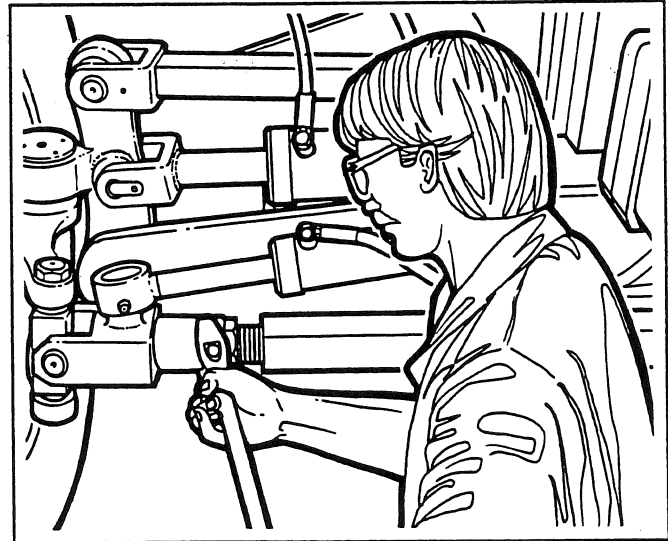

Fig. 19
9. To adjust the toe-in, loosen the locknut (36) on the drag link (18). Use a wrench to turn the adjusting collar (37) (see Fig. 19). Turning the adjusting collar varies the length of the drag link and changes the toe-in measurement.